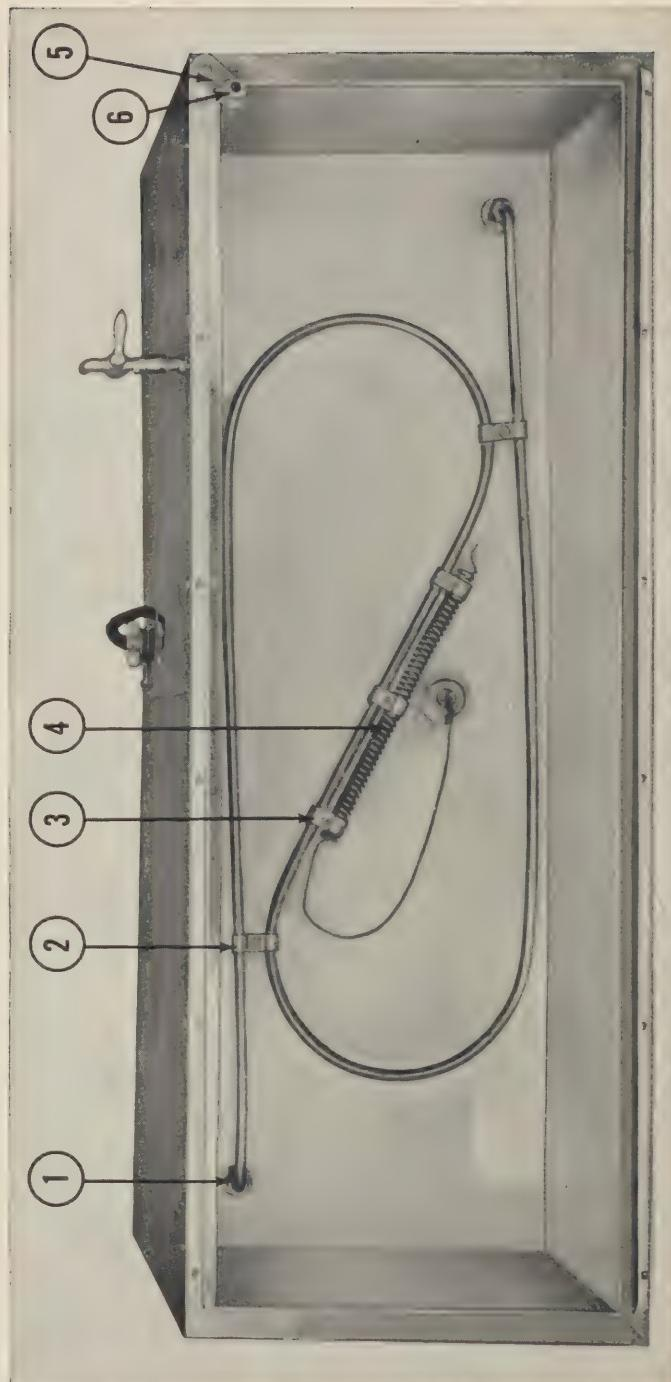

Figure 4. Item No. 4479008 water bath, scrological, inactivating. Inside view.
(4) Connect the constant level regulator to a suitable water inlet and drain outlet. The water inlet is located on the side of the constant level regulator and is furnished with a hose connection. The overflow connection is located at the bottom of the constant level regulator.
(5) Remove the thermometer from its case and insert into the thermometer well on top of the center column, (4) figure 4, and tighten the thermometer coupling, (6) figure 10, after the proper height has been determined. See paragraph 6b(3).
(6) Connect the ground terminal located on the rear of the bath near the bottom to a water pipe or well grounded conduit system.